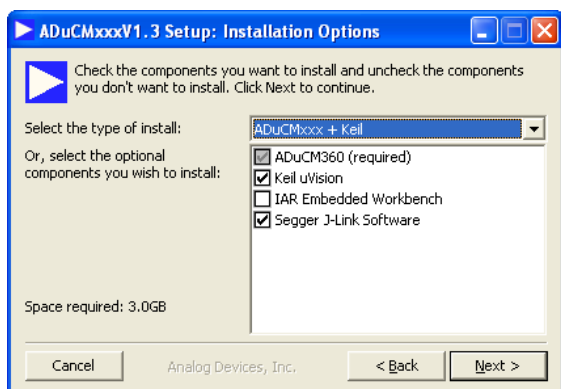

Figure 5. Installation Options
3. Double-click on **ADuCMxxxV1.3.exe** and follow the on-screen instructions. A menu displays installation options as shown in Figure 5.